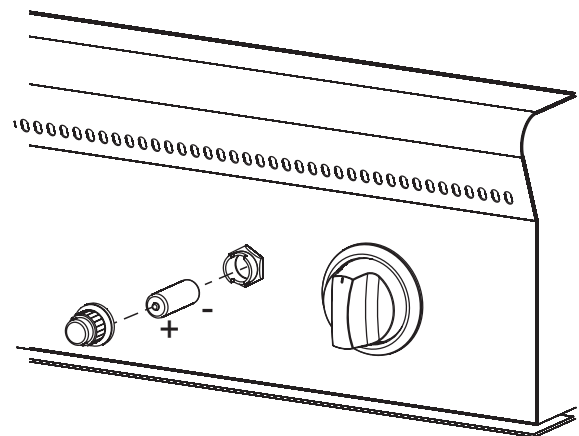

Figure 8
16. Remove ignitor button, insert AA battery positive side facing out, replace ignitor button. See Figure 8.